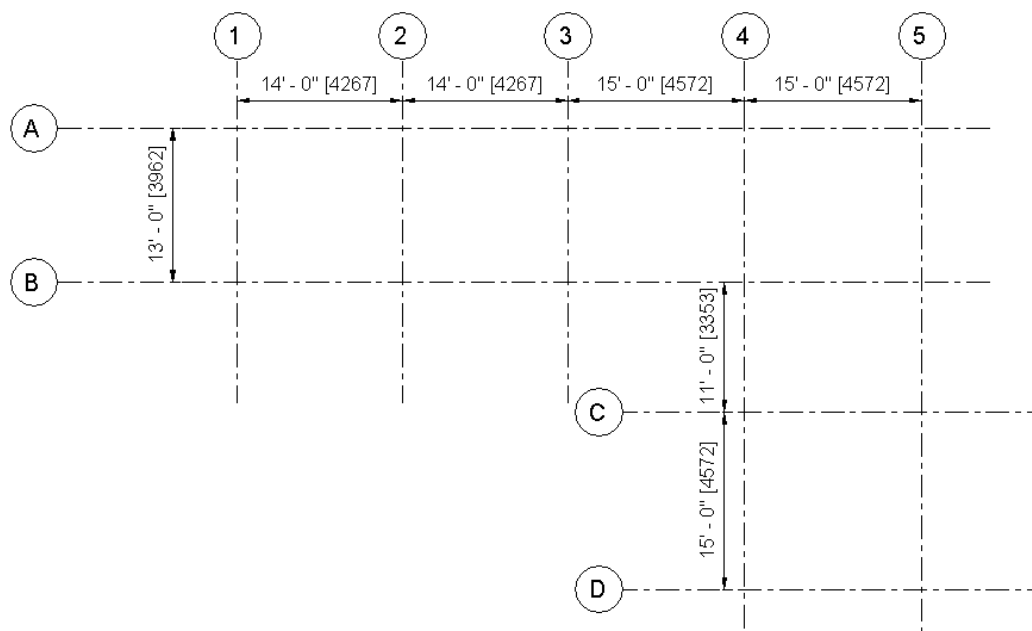

Figure 3-67 The grid lines with new names for the Factory Shed structure
In this exercise, you will add levels and grids to the project file created in Exercise 2 of Chapter 2. Refer to Figure 3-67 for grid dimensions and names. Use the following project specifications:
- Grids to be added in the **Plinth** project view using dimensions and names, as shown in Figure 3-67.